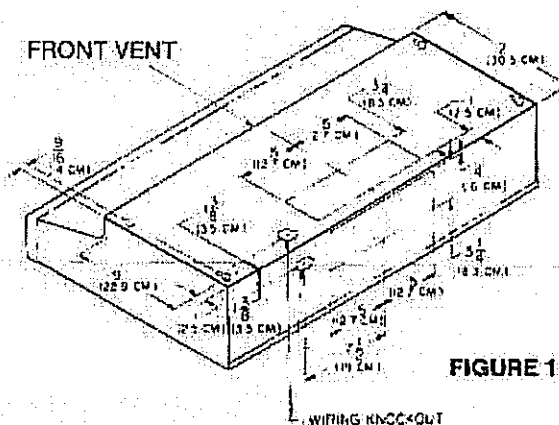

FIGURE 1
1. Mark the locations on the cabinet or wall for the ventilating duct and electrical wiring. (Figure 1)
7. Attach the enclosed damper to the hood. There are pre-drilled holes on each side of the exhaust hole for damper attachment. Use the small sheet metal screws included (#8x1/4). (Fig. 1).